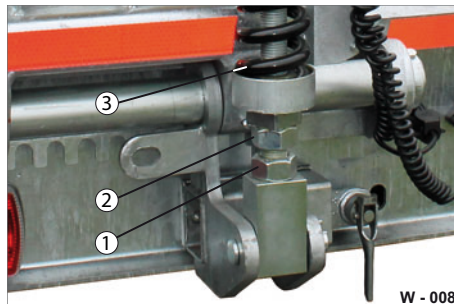

Fig. 32 Spring, factory setting
- ▶ Release the lock nuts (SW 56) (Fig. 32/2).
- ▶ Screw the adjusting screw (Fig. 32/1) anti-clockwise. The spring is tightened.